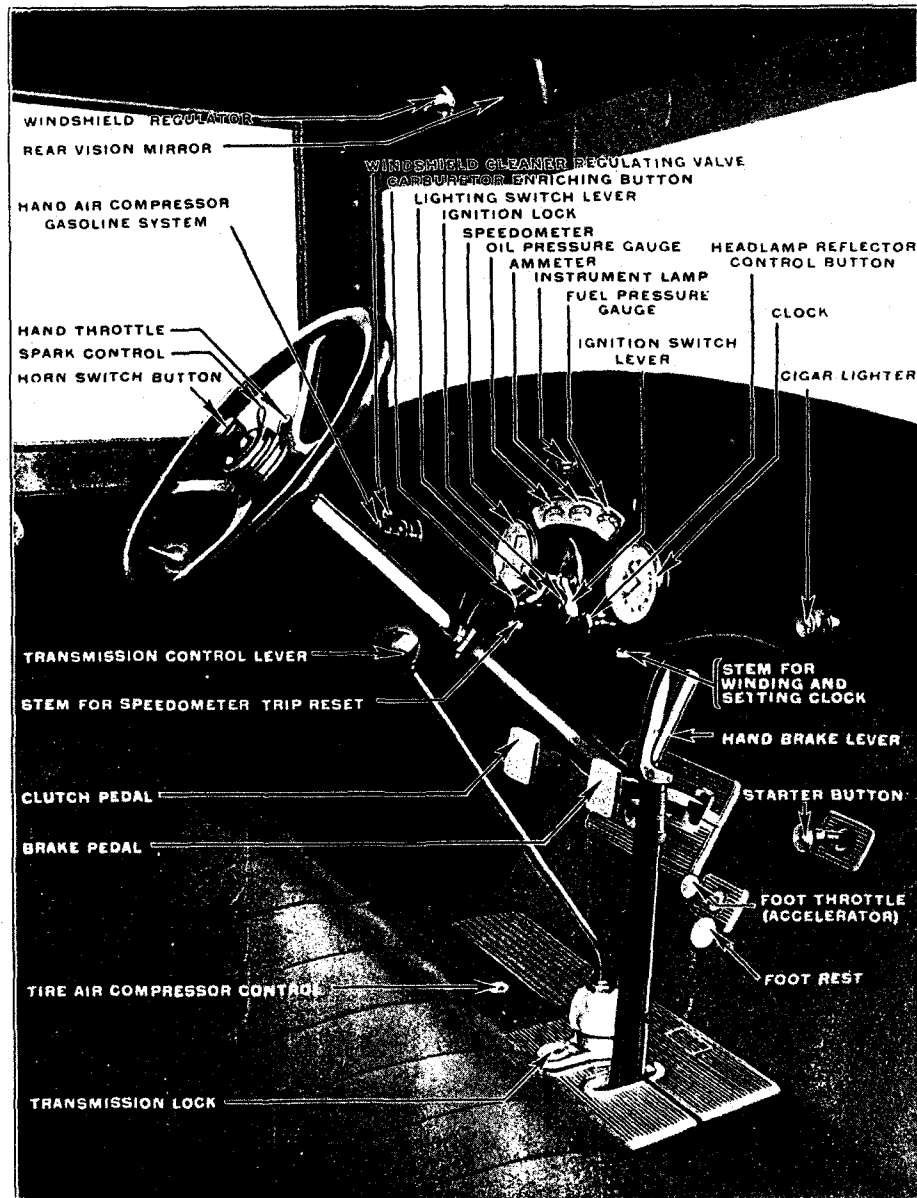

Fig 1. Instruments, Control Levers and Pedals.
1. First make certain that the transmission control lever is in the neutral position and that the hand brake is applied, (see Figure 1.)
Lubricating oil is fed under pressure to the main and connecting rod bearings of the engine (see under "Engine Lubrication," page 34.) The pressure of the oil is indicated by the pressure gauge on the instrument board. (See Fig. 1.)
Caution: Do not attempt to shift from neutral to any gear, or from one gear to any other without first disengaging the main engine clutch by pushing and holding down the clutch pedal (see Figure 1.)